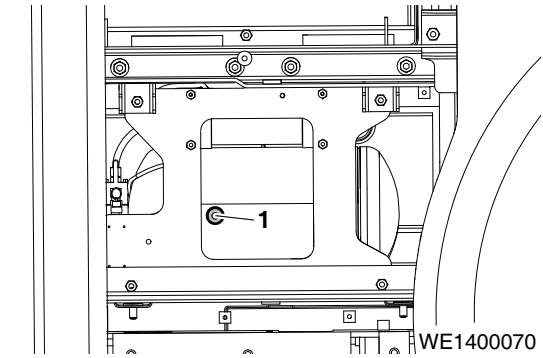

Figure 46
3. The air compressor drain valve (1, Figure 46) is on the bottom of the battery box, on right side of the machine.